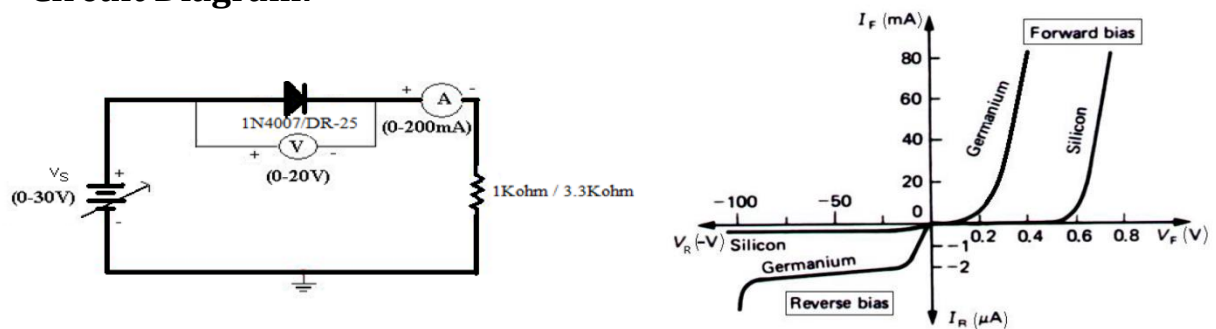

Fig. 1.1: Circuit diagram showing PN Junction under forward biased Connection & its VI Characteristics
- Connect the components as shown in the Fig.1.1.